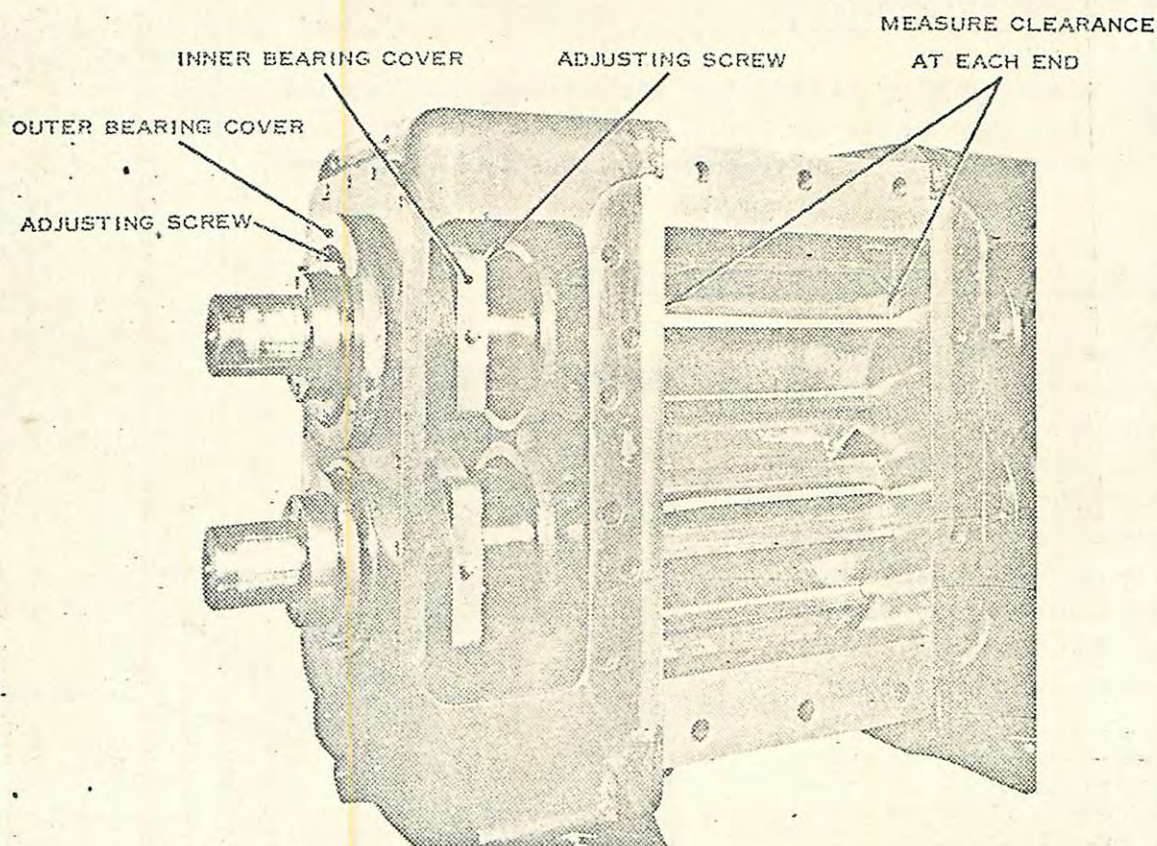

FIGURE 12. LOCATION OF HELD BEARING
1. BOLT THE INNER BEARING COVERS LOOSELY ON THE BEARING HOUSING WITH 1/2 - 13 UNC X 1-3/4 SOCKET HEAD CAP SCREWS (SEE FIGURE 12).